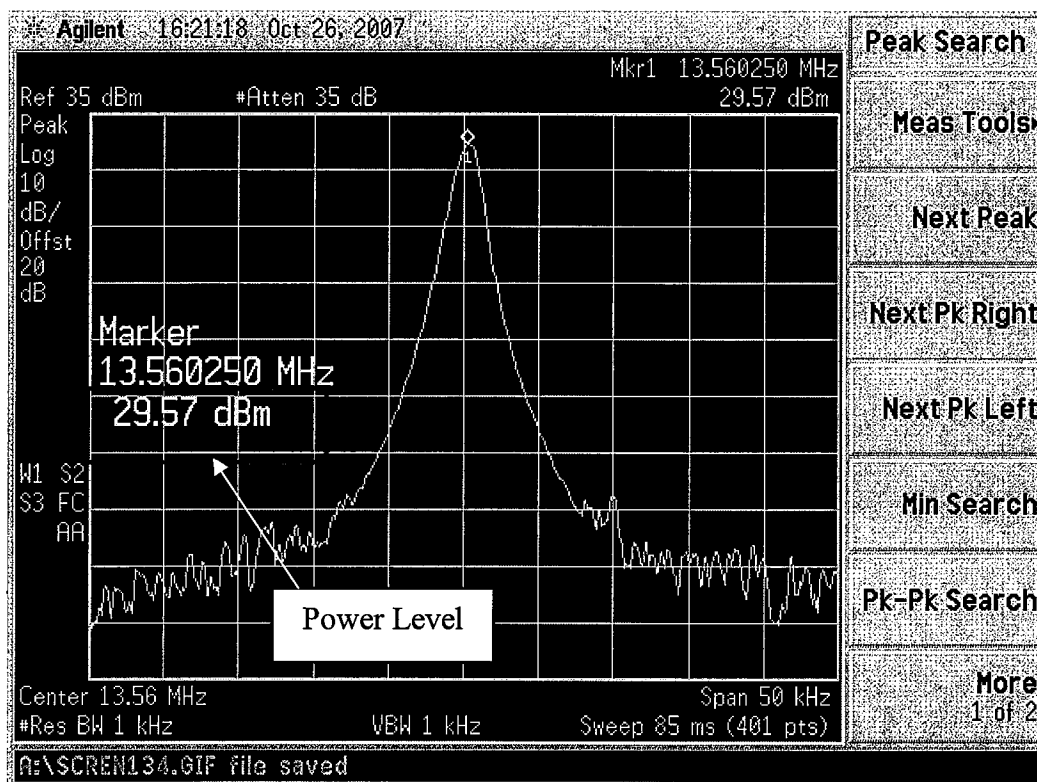

Figure 15
- 9.8.7 Move the DigiPot Adjustment up or down until you reach a level of 29.5 dBm (+/- .2 dB) as shown in Figure 15. Note in order for the "Fine Adjustment" value to be applied the Adjust button must be clicked for each new setting. **The lower the Fine Adjustment value the higher the RF amplitude.**
- 9.8.13 Return Reader Antenna Output Power Level to 1 Watt see 9.8.2 thru 9.8.4. The spectrum analyzer screen should look like Figure 15.